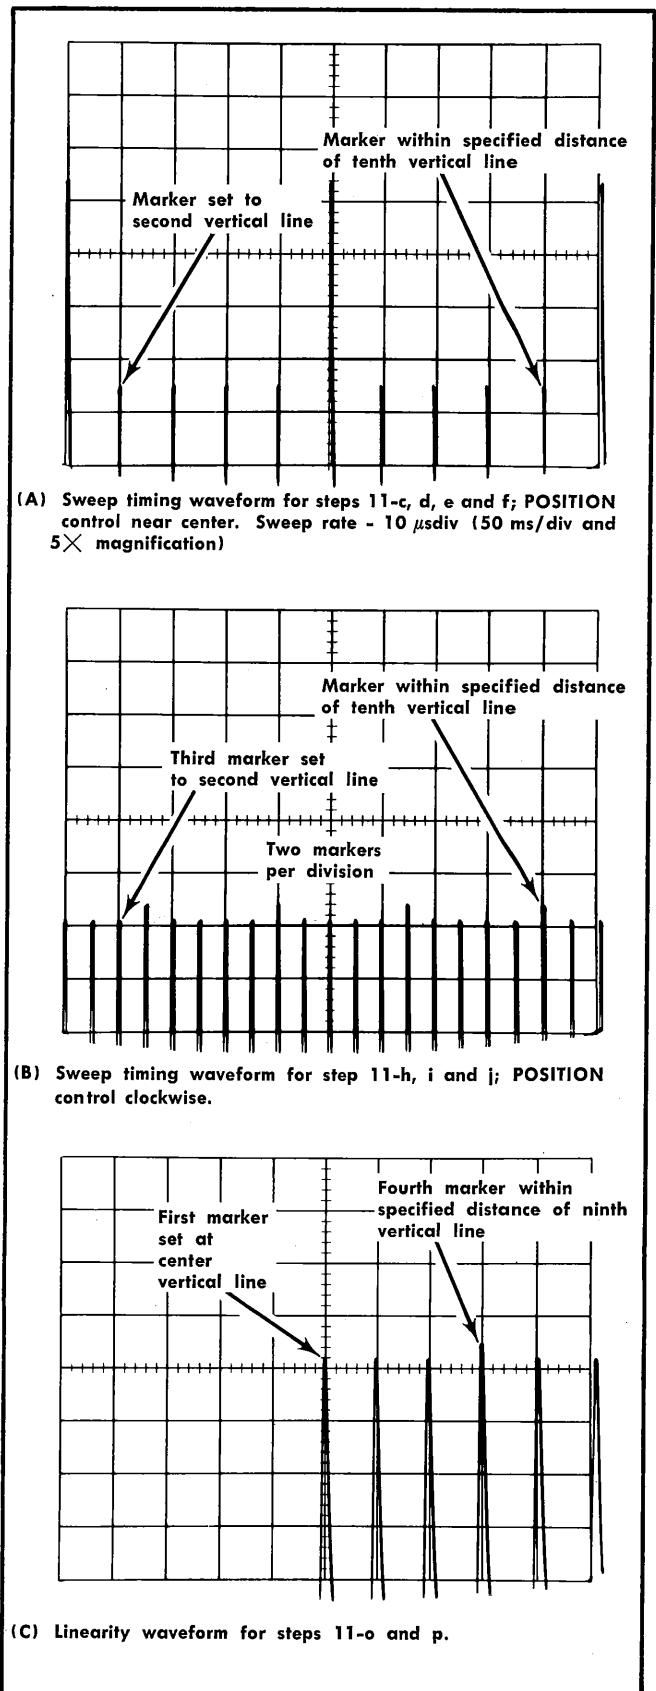
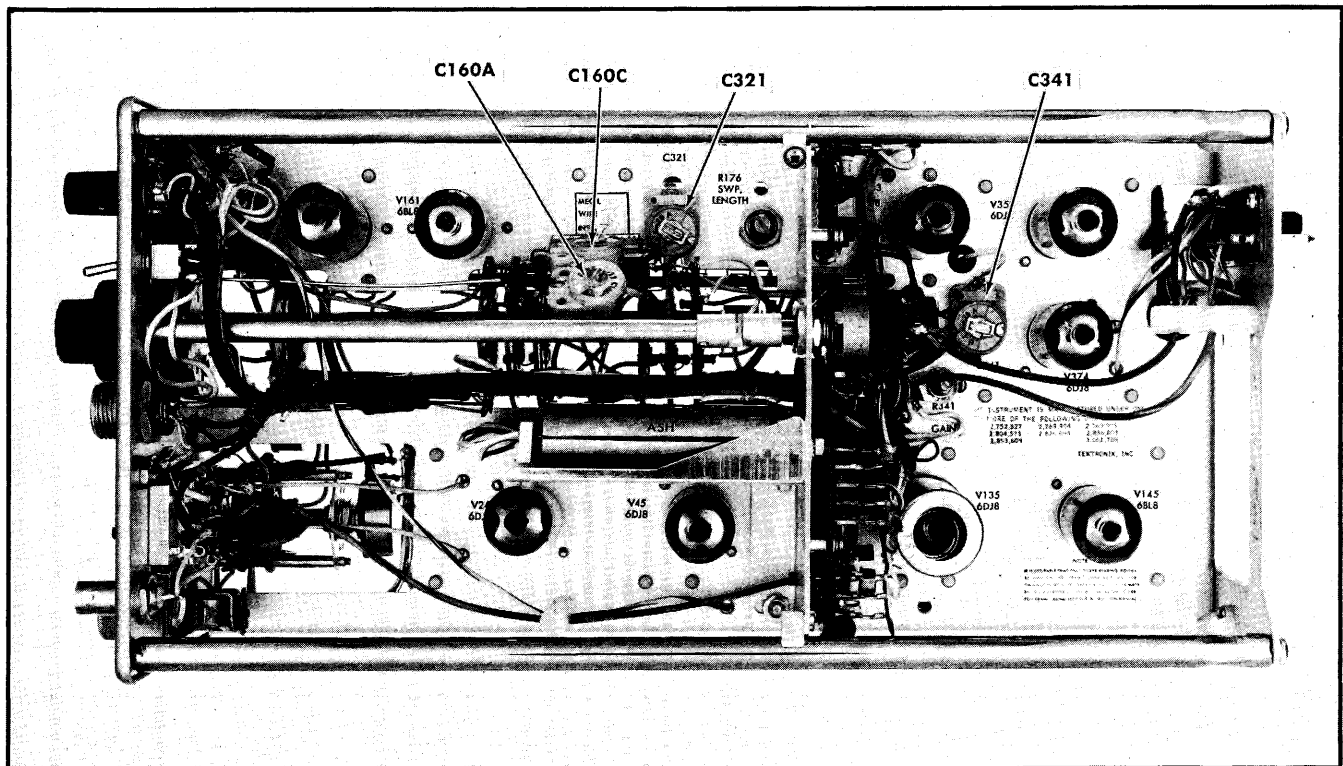

Fig. 5-26. Waveform for step 11.
Fig. 5-27. Adjustment locations for step 11.
c. Set the 2B67 TIME/DIV control to 50 μs and pull the 5× MAG knob out. Adjust the Triggering controls as necessary to obtain a stable display as in Fig. 5-26 (A).
d. With the 2B67 POSITION control near midrange, set a marker exactly on the 2nd vertical graticule line as in Fig. 5-26 (A).
e. CHECK—10 μs/div (magnified) accuracy. One marker per division should be displayed. The marker associated with the 10th vertical line should be within ±0.4 division of it, as in Fig. 5-26 (A).
f. (Calibration Procedure only.) ADJUST—10 μs/div (magnified) accuracy. Adjust C160C (Fig. 5-27) as necessary to obtain one marker per division when the POSITION control is near midrange. Adjust for exactly 8 divisions separation between markers set to the 2nd and 10th vertical lines, using Fig. 5-26 (A) as a guide.
h. Switch the 2B67 TIME/DIV control to 10 μs and adjust the 2B67 Triggering controls as necessary for a stable display. Adjust the POSITION control clockwise as necessary to place the third marker (left side of trace) to the second vertical graticule line, as in Fig. 5-26 (B).
i. CHECK—2 μs/div (magnified) accuracy. Two markers per division should exist. The marker associated with the 10th vertical graticule line should be within 0.4 divisions of it as illustrated in Fig. 5-26 (B).
j. (Calibration Procedure only.) ADJUST—2 μs/div magnified accuracy. Adjust C321 (Fig. 5-27) as necessary to obtain two markers per division when the beginning of the trace is set to the left edge of the graticule. Adjust for exactly 8 divisions separation between markers set to the 2nd and 10th vertical lines using Fig. 5-26(B) as a guide.
m. CHECK— $1 \mu\text{s}/\text{div}$ (magnified) accuracy. One marker per division should exist. The marker associated with the 10th vertical line should be within 0.4 division of it, similar to that illustrated in Fig. 5-26(A).
n. (Calibration Procedure only.) ADJUST— $1 \mu\text{s}/\text{div}$ (magnified) accuracy. Adjust C160A (Fig. 5-27) as necessary to obtain one marker per division with the POSITION control near midrange. Adjust for exactly 8 divisions separation between markers set to the 2nd and 10th vertical lines, using Fig. 5-26(A) as a reference.
o. Switch the TIME/DIV control to $1 \mu\text{s}$ and turn the $5\times$ MAG off. Using the POSITION control, set the first marker (left of trace) to start at graticule center as in Fig. 5-26(C).
p. CHECK— $1 \mu\text{s}$ linearity. One marker per division should be displayed, with the marker associated with the 9th vertical graticule line being within .09 division of it as in Fig. 5-26(C).
q. (Calibration Procedure only.) ADJUST— $1 \mu\text{s}/\text{div}$ linearity. With the display starting at graticule vertical center, adjust C341 (Fig. 5-27) as necessary to obtain 1 division separation between each of the first four markers. Compromise as necessary for best linearity, keeping the 4th marker within .09 division of its vertical line.
- (1) Set the Time Mark Generator according to column 1.
- (2) Set the 2B67 TIME/DIV according to column 2.
- (3) Adjust the triggering controls as necessary to obtain a stable display.
- (4) Set the POSITION control as necessary to set the marker specified in column 3 to the 2nd vertical graticule line.
- (5) Check for the specified number of markers, with marker displacement at the 10th vertical line within the tolerance given in Table 5-7. Fig. 5-26 (A) can be used as a reference.